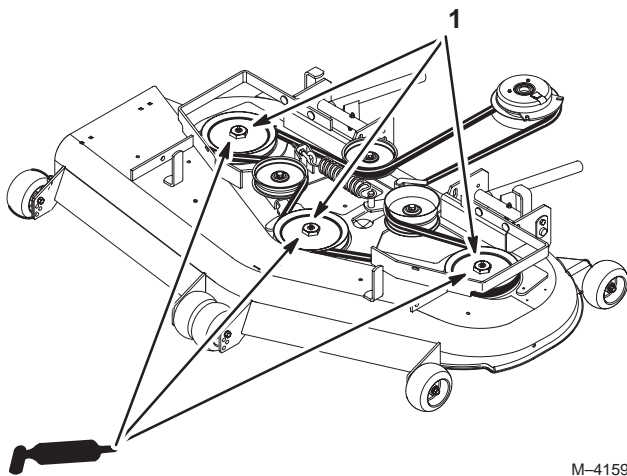

Figure 42
2. Grease the fittings on the three spindle bearings (Fig. 42).
3. Grease the idler pulley pivot (Fig. 42).
4. Grease the fittings on the push arms (Fig. 42).